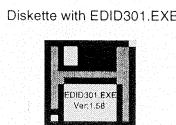

Fig. 1
3. EDID301.EXE program (3138 106 10103) as shown in Fig. 1